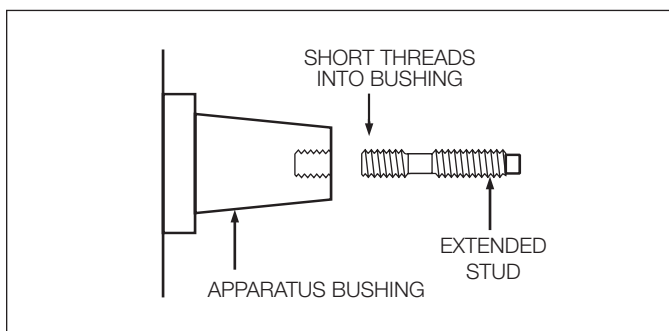

Figure 15.
- Thread the shorter threaded end of T-OP II stud into the apparatus bushing until hand tight. (Refer to Figure 15.)